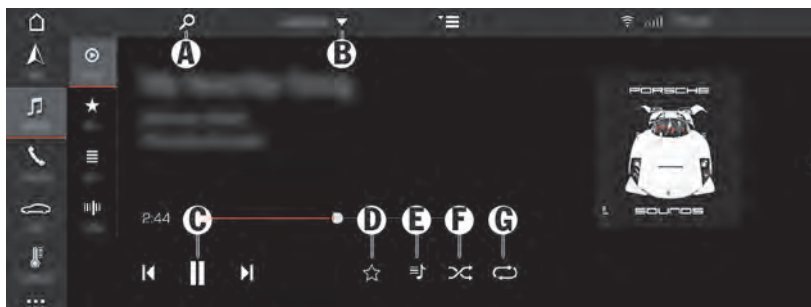

Fig. 118: Playing media
- Display current playback list: Select (see E (Fig. 118))
- Activate random playback: Select (see F (Fig. 118))
- Replay track: Select (see G (Fig. 118))